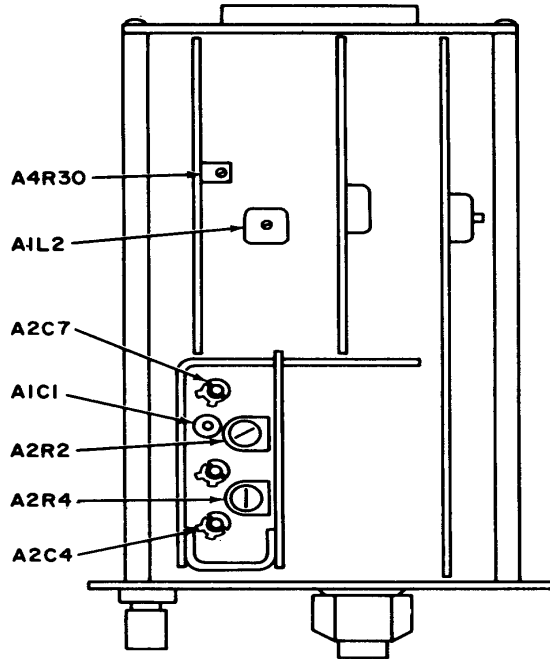

Figure 4. Ac/dc range unit - adjustment locations.
- (1) Adjust ac calibrator for an output of 9.0000 V.
- (2) Adjust A4R30 (fig. 4) to obtain an indication of 9.000 on TI.